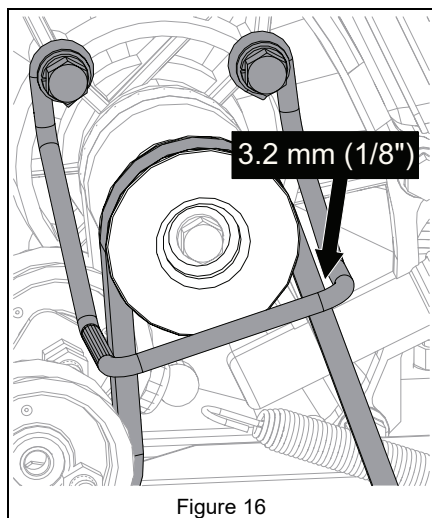

Figure 16
- Engage attachment clutch lever and make sure belt finger located opposite belt idler is less than 3.2 mm (1/8") from belt, but not touching the belt. See Figure 16.